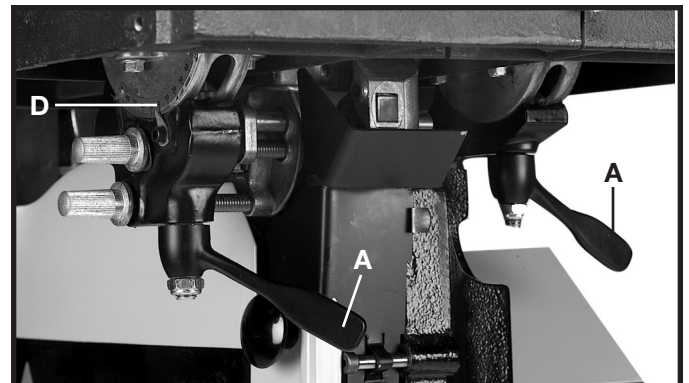
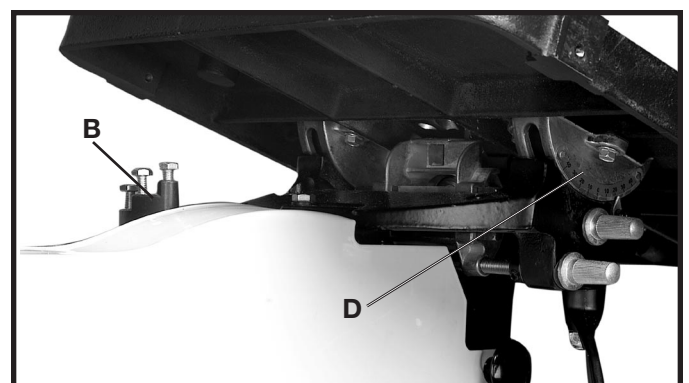

Fig. 43
Fig. 44
2. The table on the band saw can be tilted 45 degrees to the right and 9 degrees to the left. To tilt the table to the right, loosen the two clamp handles (A) Fig. 43, tilt the table to the desired angle as shown on the scale (D) Figs. 43 and 44, and tighten two locking handles (A) Fig. 43.
3. To tilt the table to the left, loosen the two locking handles (A) Fig. 43, and tilt the table to the right until the table stops (B) Fig. 44 can be accessed. Rotate the table stop (B) Fig. 44, and tilt the table to the left. Tighten the two locking handles (A) Fig. 43.
2. Loosen the table clamp handles (A) Fig. 43, and tilt the table to the right.
5. Tighten table clamp handles (A) Fig. 43.
2. Loosen the two clamp handles (A) Fig. 43.